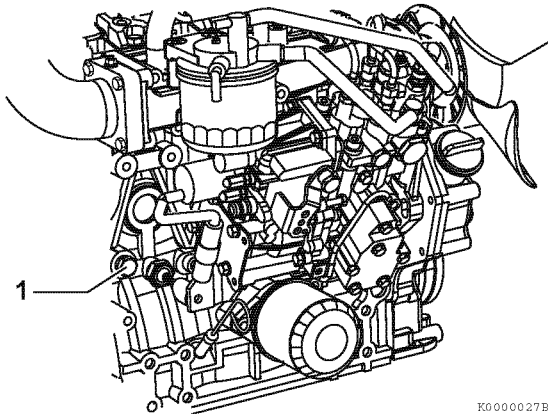

Figure 5-19
- On models not equipped with an oil cooler, remove the coolant drain plug (1, **Figure 5-19**) from the engine block.